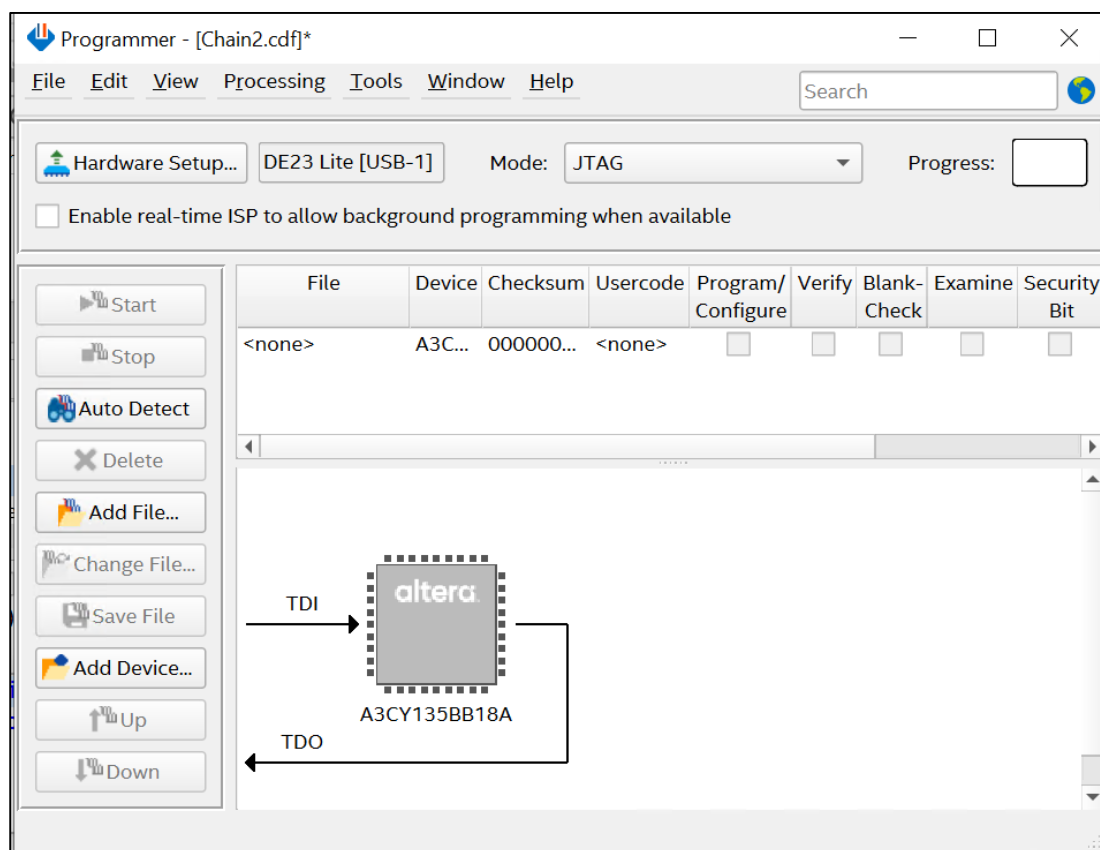

Figure 3-5 FPGA detected in Quartus programmer
4. The Agilex 3 FPGA should be detected, as shown in Figure 3-5.